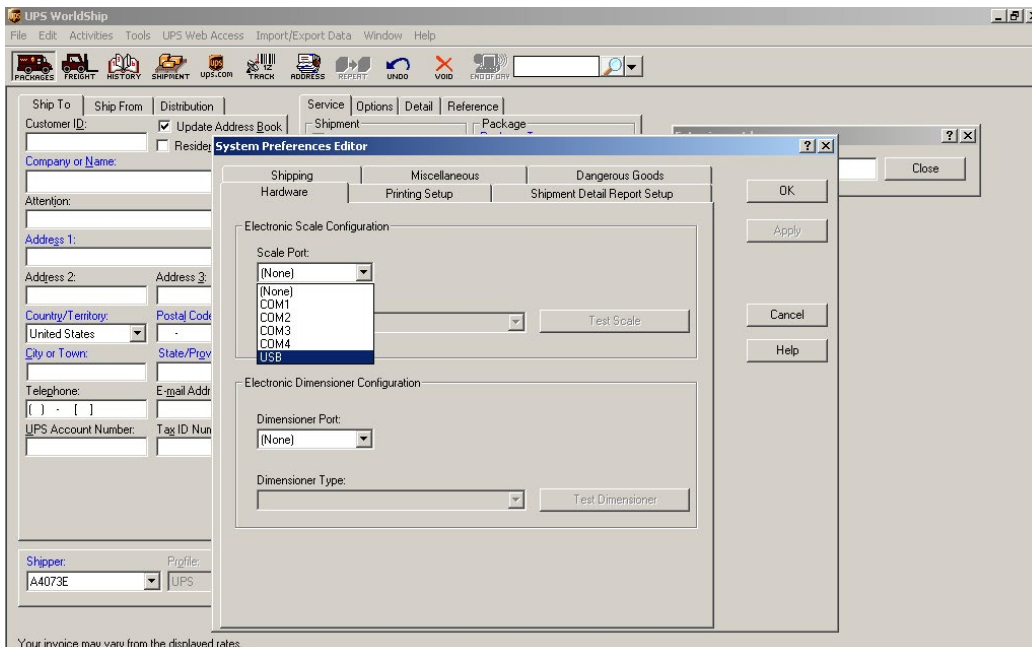

Figure 7
3. From the Scale Port drop down menu, select USB. (See Figure 7)